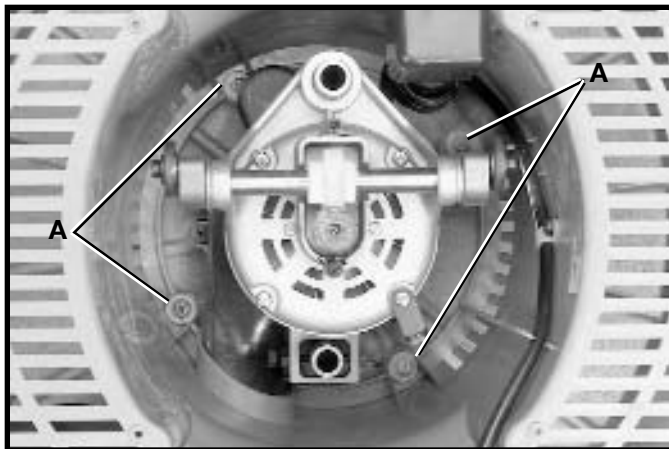

Fig. 22
3. Remove the four mounting screws (A) Fig. 22 and remove the case (B) from the machine.